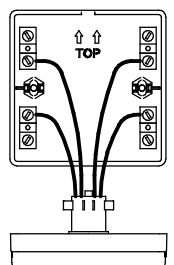

FIG.1
The Key Switch call point comes complete with a back box onto which the call point is mounted. There is provision for rear cable entry, and by using the template below (fig.1), cable holes can be drilled into the top or bottom of the back box to accept one (A) or two (B) cable glands - max. dia.20mm